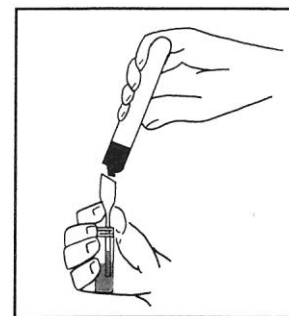

Figure 3
5. Place a polyethylene filter funnel in one of the 20 mL glass vials marked with the sample number. Position the black-capped test tube directly over the top of the funnel and open the dispenser nozzle (See Figure 3). Dispense the solution by carefully squeezing the sides of the tube. Stop as soon as the first drop of oil appears. Allow the solution to pass through the funnel, but remove the funnel before any oil can get through. Allow the solution to cool for five minutes. The sample is now ready for analysis.
- Place a polyethylene filter funnel in one of the 20 mL glass vials marked with the sample number. Position the black-capped test tube directly over the top of the funnel and open the dispenser nozzle. (See Figure 3) Dispense the solution by carefully squeezing the sides of the tube. Stop as soon as the first drop of the organic solvent appears. Allow the solution to pass through the funnel, but remove the funnel before any oil can get through. Allow the solution to cool for five minutes. The sample is now ready for analysis.
7. Place a polyethylene filter funnel in one of the 20 mL glass vials marked with the sample number. Position the black-capped test tube directly over the top of the funnel and open the dispenser nozzle (See Figure 3). Dispense the solution by carefully squeezing the sides of the tube. Stop as soon as the first drop of oil appears. Allow the solution to pass through the funnel, but remove the funnel before any oil can get through. Allow the solution to cool for five minutes. The sample is now ready for analysis.